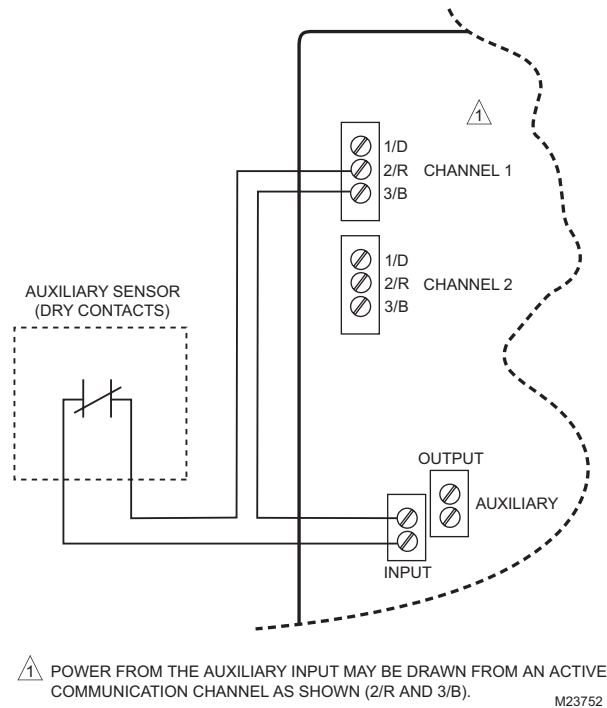
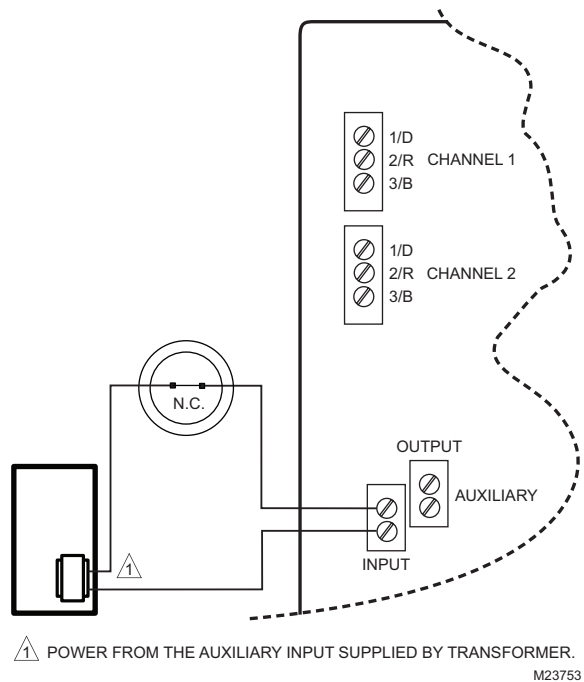

Fig. 11. Wiring Normally Closed Contact Sensor to the AUX-IN Terminal Block (Channel Powered).
Fig. 12. Wiring Normally Closed Contact Sensor to the AUX-IN Terminal Block (External Power Supply).
Power from the auxiliary input (AUX-IN) may be drawn from an active communication channel or a power supply must be available if no communications channel is used. See Fig. 11 and Fig. 12 on page 10.
- Connect the auxiliary input (AUX-IN) terminals to a normally closed dry contact sensor, drawing power from an active EnviraCOM channel or external transformer. See Fig. 11 on page 10.
- Connect the auxiliary input (AUX-IN) terminals to a normally closed contact sensor, drawing 24 V power from an external power supply. See Fig. 12 on page 10.